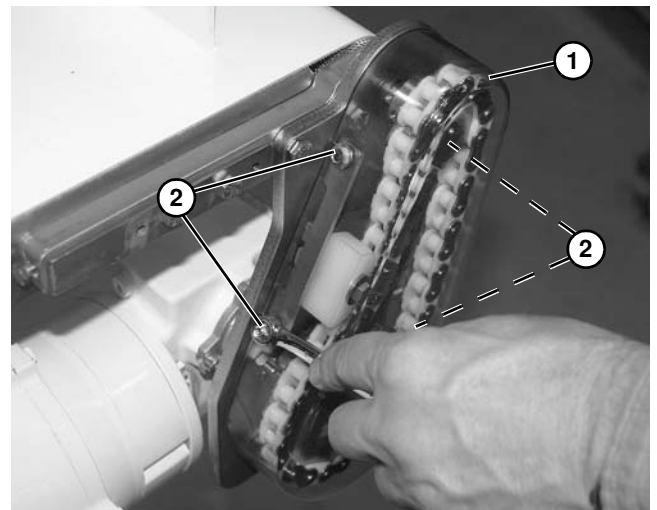

Figure 37
Do not over-tighten screws (Figure 37, item 2).
- Install cover (**Figure 37, item 1**) and tighten four screws (**Figure 37, item 2**).